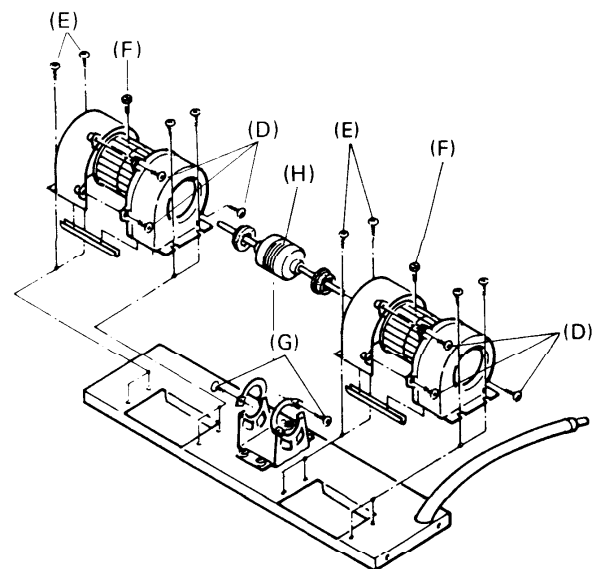

Fig. 10
- ④ Remove the casing connection screws (D) (3 each left and right per unit).
- ⑤ Remove the casing fixing screws (E) (2 each left and right per unit).
- ⑥ Split the casing.
- ⑦ Loosen the fan screws (F) (one per unit), and pull the fans.
- ⑧ Remove the two motor fixing screws (G), and then remove the motor (H). Fig. 10